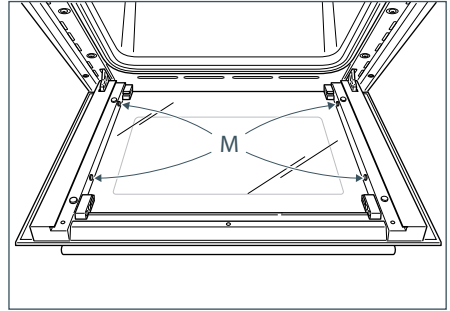

Fig.83a
- Check that the four rubber pads are in place ("M" in Fig. 83a).